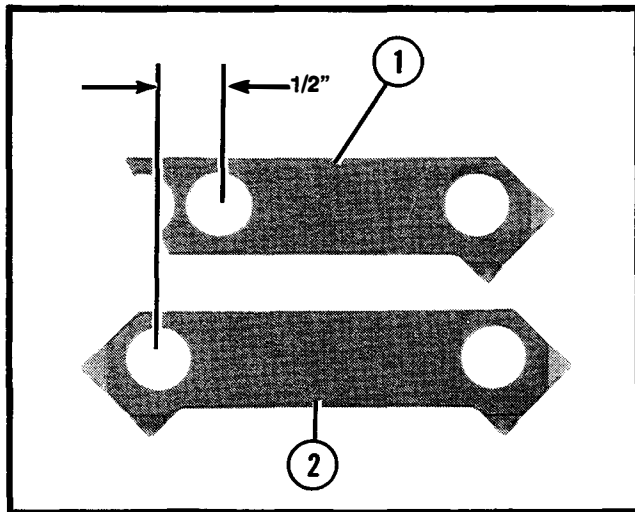

Figure 11.
- It will be necessary to modify one of the lock plates due to the fact that the distance between two of the retaining screws is now different than originally. See Figure 11.